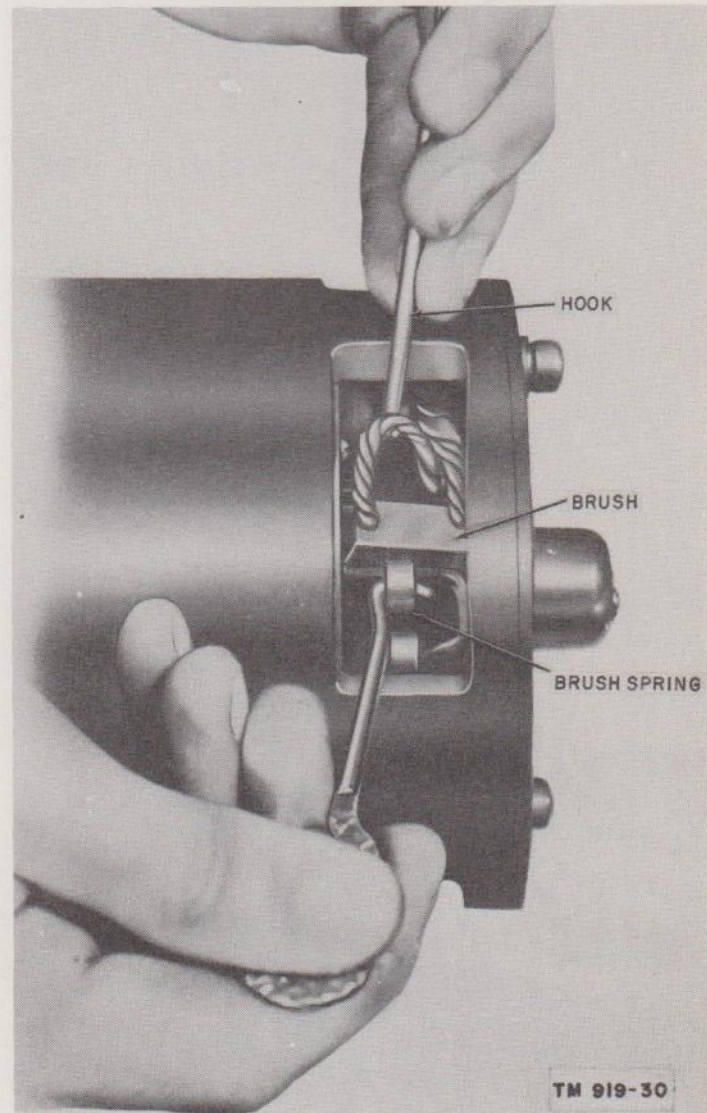

Figure 30. Removing brushes (starting motor).
(b) Remove the brush cover band (3) and take the screws (4) out of commutator end head assembly (10). Lift the brushes (6) out of the brush holders as shown in figure 30. Slip the commutator end head assembly out of the field frame (46).